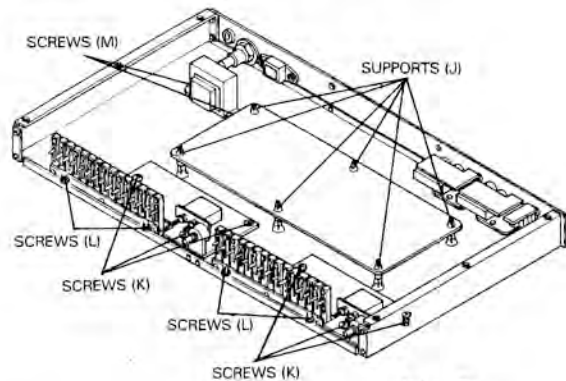

Fig. 3
- (a) Removal of Main PCB. (Fig.3)
- (b) Removal of Control PCB. (Fig.3)
- (c) Removal of EQ VR PCB. (Fig.3)
- (d) Removal of Transformer. (Fig.3)